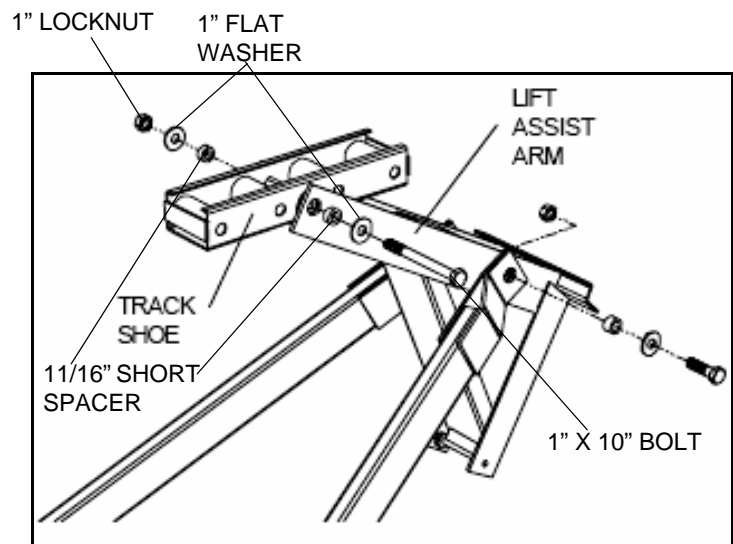

Figure 3.19 81'
4. **81'**: Attach the lift-assist arm to the center hole on the track shoe with an 11/16" short spacer and 1" flat washer on each side and a 1" x 10" bolt and locknut. **Tighten securely** (Figure 3.19).